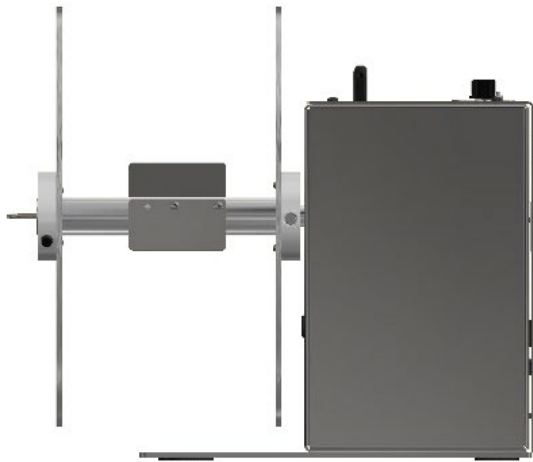

FIG. 1
- The CAT-3-Standard has a vane-style core Holder (FIG.1)
- STANDARD, 1-INCH AND 10-INCH (FIG.1): Slide the Flange Plate onto the hollow end of the Rewind Shaft. For maximum width, the Flange face should be flush with the end of the Shaft. Tighten the screw in the Hub.